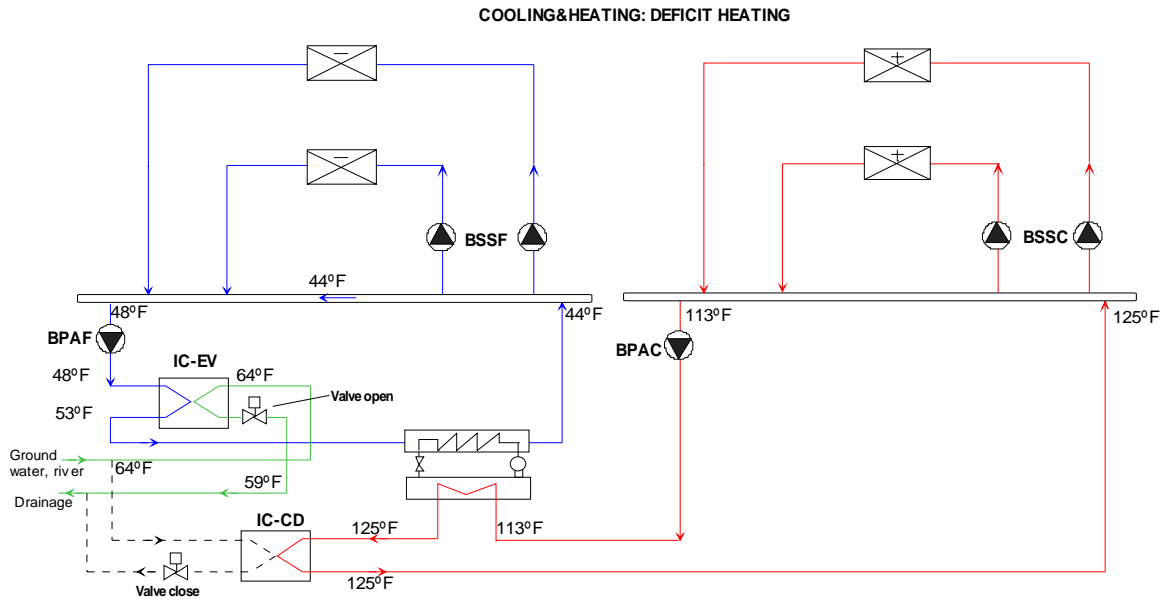

Figure 34. Loop-to-Loop Heat-Pump Heating dominated
4. Heating dominated (Figure 34)– Simultaneous heating and cooling loads exist, with heating being the dominant load. Additional heat from the well loop is made up to the evaporator loop via heat-exchanger IC-EV. The heat-exchanger is controlled to maintain the supply temperature of the chilled-water loop. Since the temperature leaving the evaporator may be substantially lower than in the heating-only mode, the capacity and energy efficiency of the chiller are reduced.